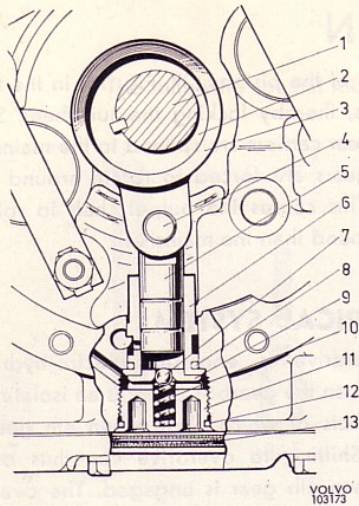
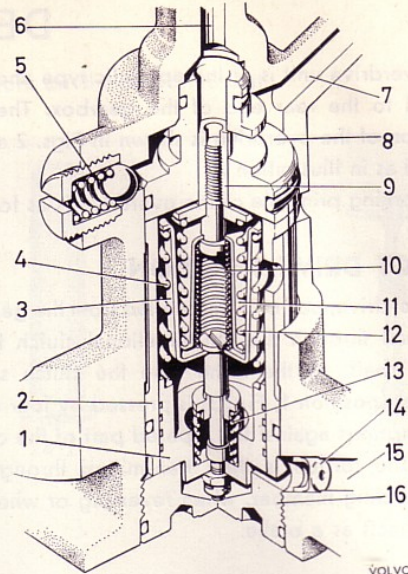

Fig. 5. Oil pump
Fig. 6. Relief valve
The hydraulic system consists of the following main parts: Sump filter, oil pump (Fig. 5), pressure filter, hydraulic cylinders and plungers, relief valve (Fig. 6) and an operating valve, which is actuated by the solenoid.
The small piston (9, Fig. 6) is the actual relief valve.
In direct drive (see Fig. 7), oil is drawn up through the sump filter by the oil pump and is forced through the pressure filter. From there it flows on through the hydraulic cylinders to the relief and operating valves. The operating valve is closed (Fig. 8) and the large piston of the relief valve is in its lower position (Fig. 9). The residual spring (10, Fig. 6) is off-loaded, so that only a low pressure is required to press down the small piston of the relief valve. Oil then flows past this piston out into the drilling (7) for the main-shaft.
On engaging overdrive, the solenoid is energized and its valve opens to the position shown in Fig. 10. Oil is directed to the bottom of the relief valve and causes the dashpot piston to rise and compress the springs (Fig. 11). The springs are prevented from being compressed further than their working length by means of the relief valve and dashpot spring cups. The only spring which can operate in this position is the relief valve spring 12, Fig. 6, which thus determines the pressure during overdrive engagement. Spring 12 is considerably stronger than spring 10, so that a considerably higher pressure is now obtained. This causes the dashpot pistons to be displaced and pull the clutch sliding member forwards to engage with the brake ring.
Returning to direct drive de-energizes the solenoid and its valve is closed by a spring, cutting off the oil supply between passages 12 and 2, Fig. 7. The connection between passage 2 and the sump is opened instead. Oil can then flow out into the sump under the large piston unit of the relief valve so that pressure in the system progressively drops and direct drive is engaged. By means of the restrictor plug (14, Fig. 6) and the spring (13), the engaging time is so balanced that smooth engagement is obtained without slipping.
Oil, which passes the small piston unit of the relief valve, is directed through the drilling (7, Fig. 6) and a drilling in the mainshaft to the free wheel and shaft bush. From here it is directed by an oil thrower into a catcher disc on the planet carrier and then led via the planet gear back to the gearbox housing, see Fig. 15. The oil pump has such a large capacity that sufficient lubricating oil always flows past the relief valve. A special relief valve (5, Fig. 6) is installed in drilling (7) in order to maintain even lubricating oil pressure.